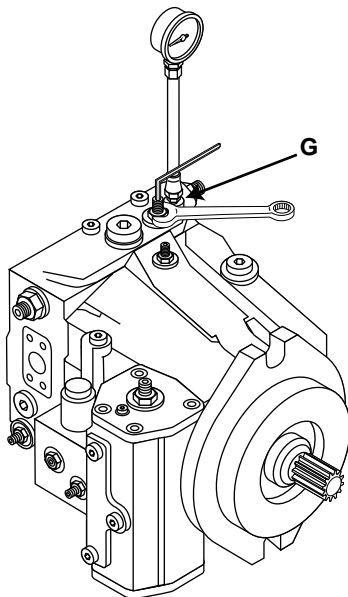

Figure 29 Charge Pressure Adjustment
4. Remove 1/4" plug (Fig. 29) on the hydrostatic drive pump and insert a 600 psi gage with the necessary adapters to hook to an 04MB port.